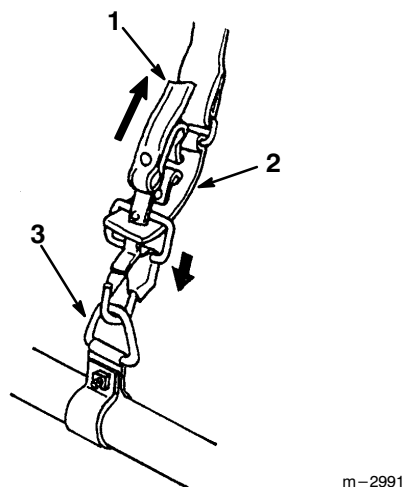

Figure 26
1. **Deluxe Strap Harness, Model No. 46-2961**—safety release straps made out of durable nylon webbing (Fig. 26).